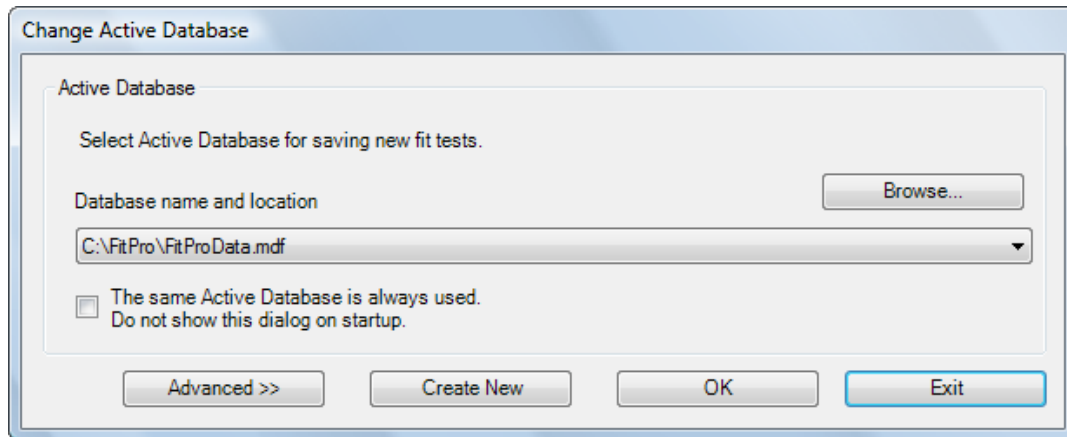

Figure 1. Change Active Database Dialog
2. When FITPRO™ software starts, the **Change Active Database** dialog (Figure 1) appears.